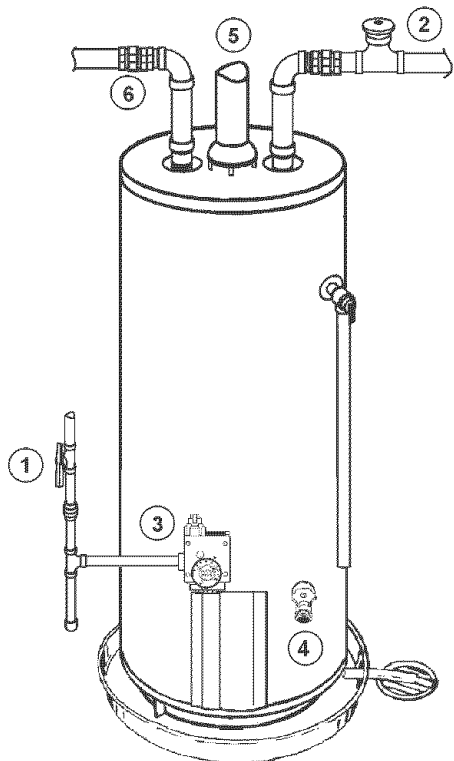

FIGURE 2.
If the main gas line shut-off valve serving all gas appliances is used, also shut "OFF" the gas at each appliance. Leave all gas appliances shut "OFF" until the water heater installation is completed, see Figures 2 and 3.
- ② Turn "OFF" the water supply to the water heater at the water shut-off valve or water meter. Some installations require that the water be turned off to the entire house, see Figures 2 and 4.
- ③ Check again to make sure the gas supply is "OFF" to the water heater. Then disconnect the gas supply connection from the gas control valve.
- ④ Attach a hose to the water heater drain valve and put the other end in a floor drain or outdoors. Open the water heater drain valve. Open a nearby hot water faucet which will relieve pressure in the water heater and speed draining. The water passing out of the drain valve may be extremely hot. To avoid being scalded, make sure all connections are tight and that the water flow is directed away from any person, see Figures 2 and 5.